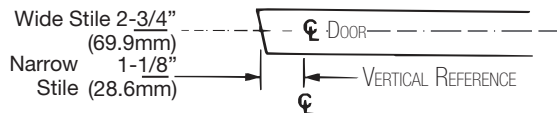

Figure 5: Determining Door Reference Lines
2. Locate and mark horizontal centerline and vertical centerline as shown in Figure 5.